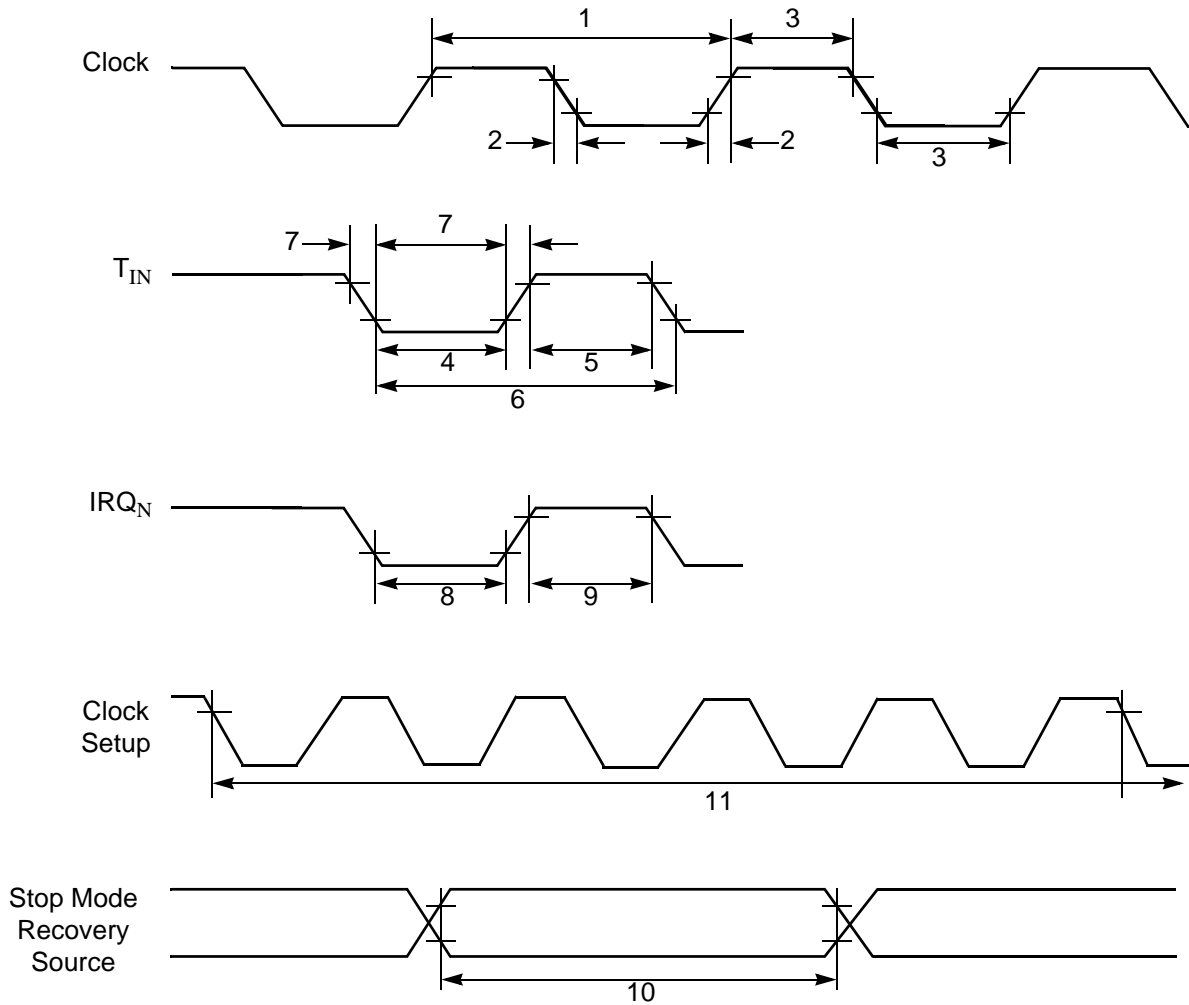

Figure 54. AC Timing Diagram
Figure 54 and Table 18 on page 75 describe the alternating current (AC) characteristics.